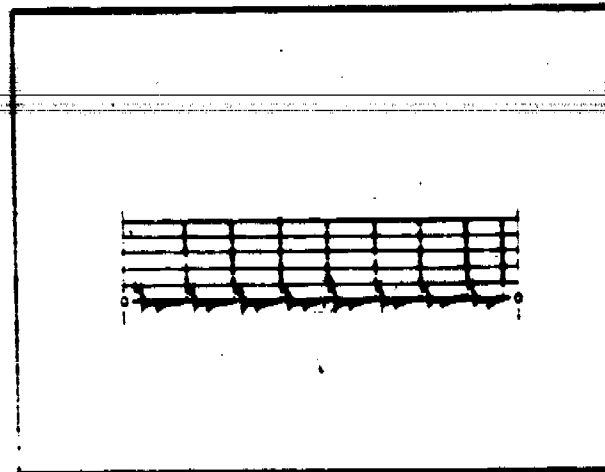

Figure 4-5. Normal Secondary Display Waveform
c. Secondary waveform should appear as shown in figure 4-5).